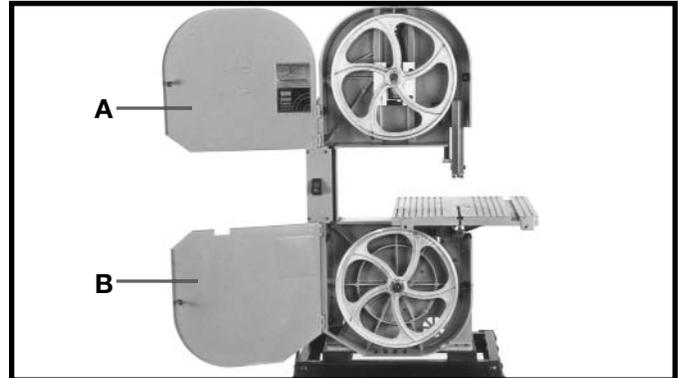

Fig. 16
2. Fig. 16, illustrates doors (A) and (B) in the open position.